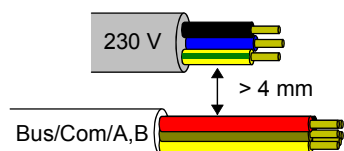

Figure 3
- During installation, ensure adequate insulation between mains voltage and bus or extensions! A minimum spacing should be maintained between bus / extension cable cores and mains voltage cable cores of at least 4 mm. (cf. figure 3)